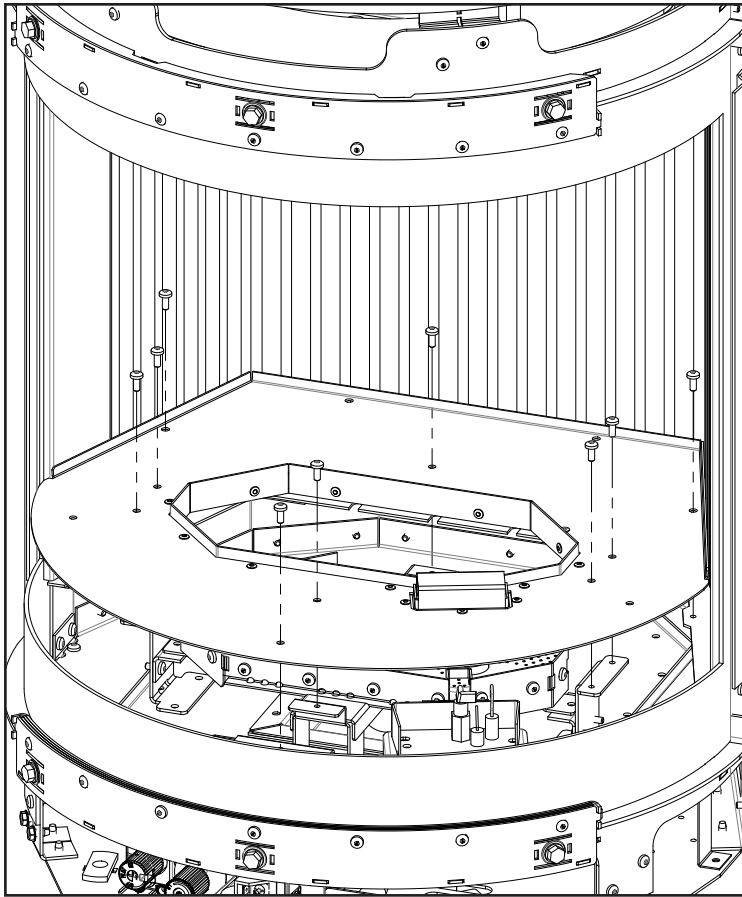

Figure 42: Burner Platform Removal
To remove the burner, first remove the door frame and glass (refer to page 17 and page 18 for details). Remove the nine (9) screws securing the burner platform using a T20 screwdriver (see Figure 42).